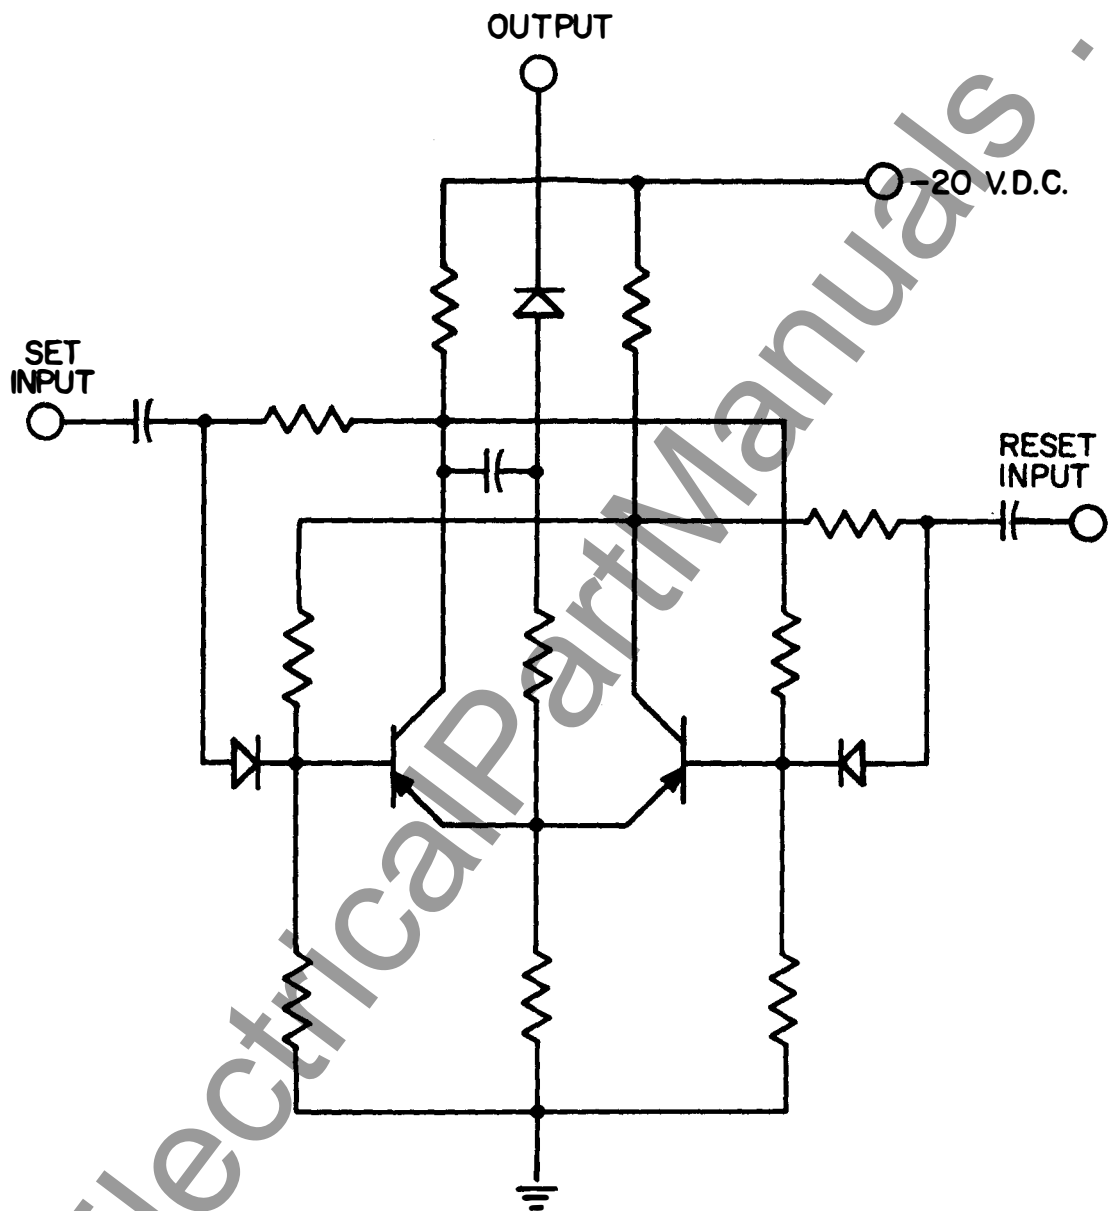

Fig. 2
Nearly all of the functions in the WT-1 and WT-2 are performed by a bistable circuit, or "flip-flop" consisting of two transistors with appropriate feedback. A typical circuit of this type is shown in Figure 2. This circuit has two stable conditions, (1) with the left hand transistor conducting and (2) with the right hand transistor conducting. As long as sufficient drive is provided to the "ON" transistor and adequate bias applied to the "OFF" transistor the circuit will remain in either state.